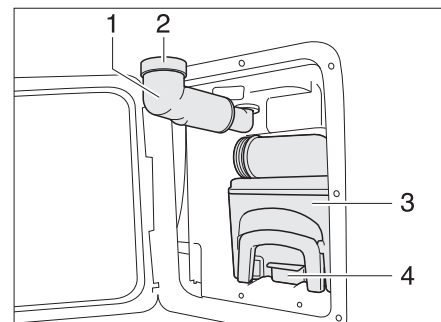

Fig. 161 Thetford cassette
- Swing the fresh water filler neck (Bild 161,1) towards the outside.
- Remove the screw cap (Bild 161,2).